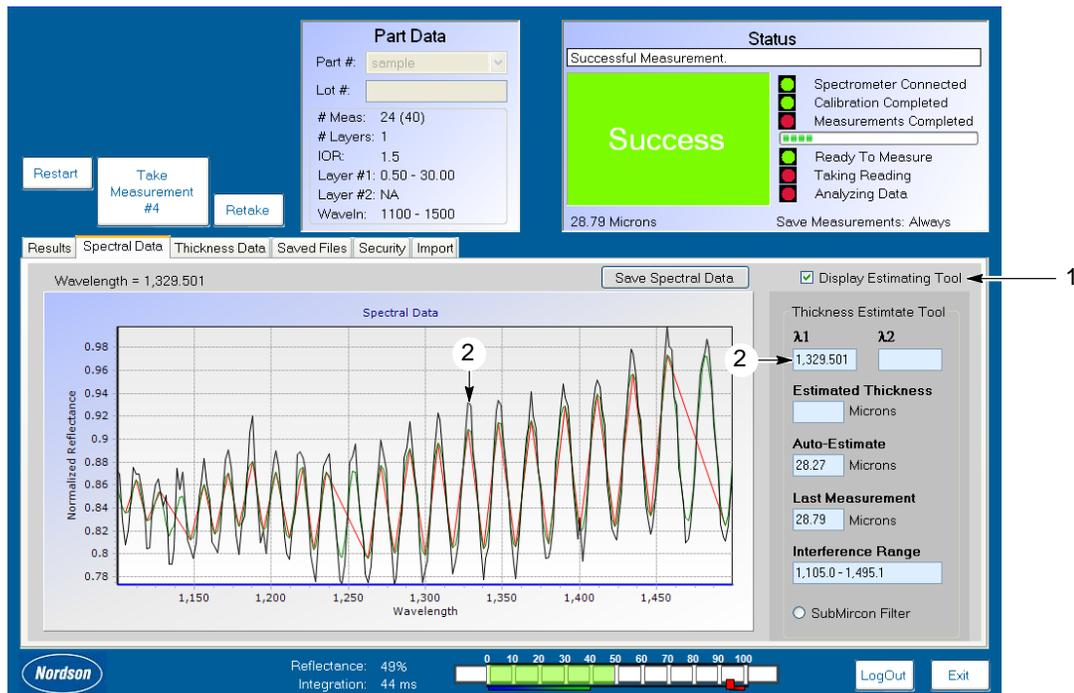

Figure 22 Sine Wave and  $\lambda_1$  Displayed through Spectral Data Tab
See Figure 22.
2. Choose any two adjacent cycles of the sine wave in the interference spectrum, then double click at the peak of the first cycle. The software will automatically populate  $\lambda_1$  (1329.501 nm in Figure 22).